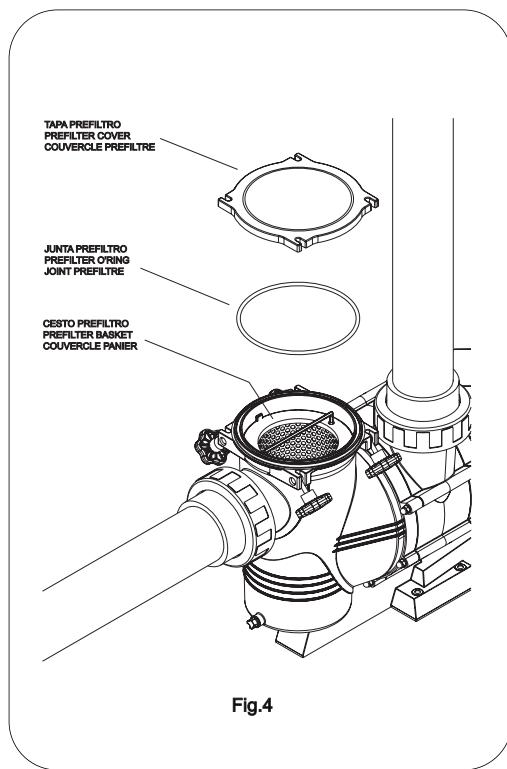

Fig.4
1. Open the prefilter cover (Fig. 4)
- Each time the pre-filter is opened, clean impurities from the joint seating and the joint itself, to ensure a good sealing of the cover. (fig.4).